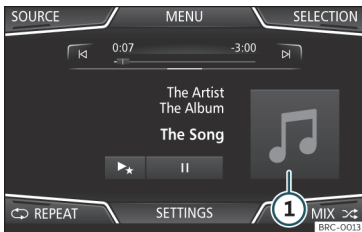
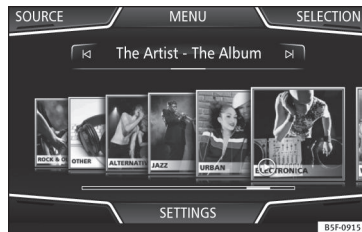
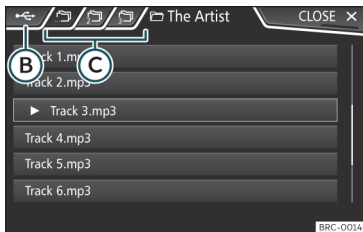

Fig. 151 MEDIA main menu.
Fig. 152 Selection by cover.
Fig. 154 Media Mode: list of tracks of a Media source.
Clicking on the current cover >>> Fig. 151 ① will display all of the album covers available in the active Media source >>> Fig. 152.
- Press the **SELECT** function button on the **MEDIA** main menu >>> **Fig. 151** to open the track list. The track that is playing is highlighted >>> **Fig. 154**.